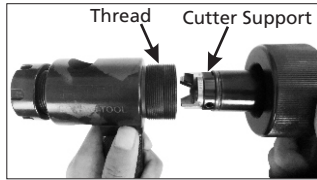

Fig.1-7
7. Lubricate the tool housing thread. Install the cutter support and the nut/collet assembly into the tool housing. (Fig.1-7)